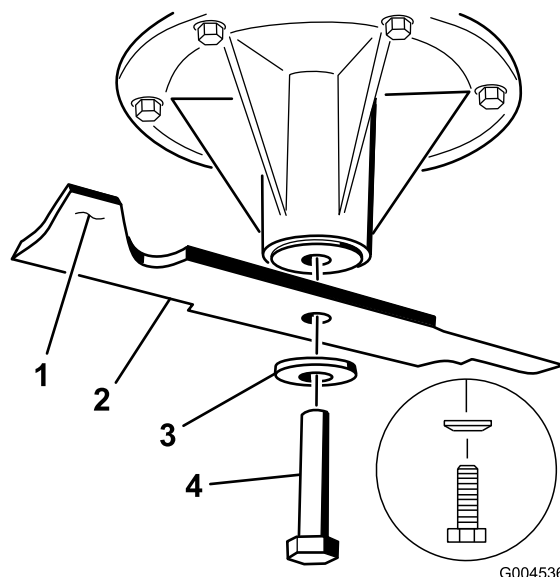
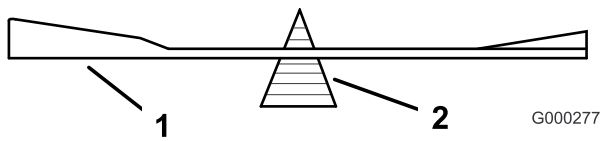

Figure 91
Figure 93
2. Remove the blade bolt, curved washer, and blade from the spindle shaft (Figure 91).
2. Check the balance of the blade by putting it on a blade balancer (Figure 93). If the blade stays in a horizontal position, the blade is balanced and can be used. If the blade is not balanced, file some metal off the end of the sail area only (Figure 91). Repeat this procedure until the blade is balanced.